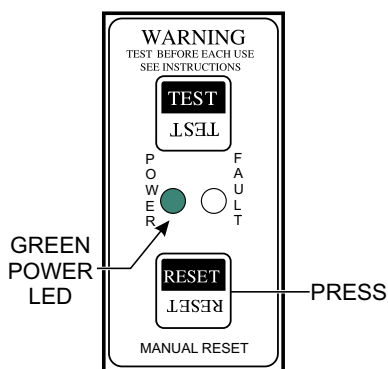

Figure 70. GFCI Sensing Module (Green LED ON Reset)
8. To restore power, press the RESET button (Figure 70) on the GFCI module and verify that the **red** FAULT LED turns **OFF** and the green POWER LED should turn **ON**.